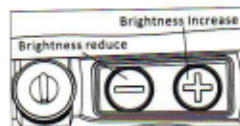

Fig 5
1. **Switch on (see Fig5) :** Press and release either brightness button ("+" or "-") to turn on the sight.